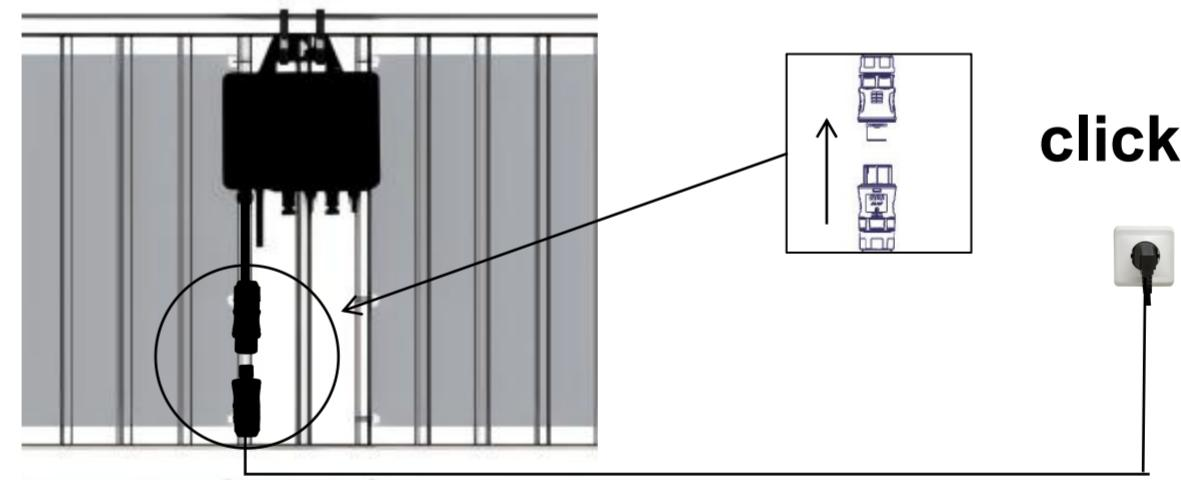

Figure 1
- To avoid additional power consumption from machine night power, the micro-inverter gets power from the panel instead of grid. If the flexible panels connected in series get sufficient sunlight, the machine LED in the lower left corner will flash red after the dc lines are plugged into the machine (Figure 1). If the LED does not flash, maybe the sunlight on the panels is not enough. In this case, try moving the flexible panels to another location with stronger sunlight.